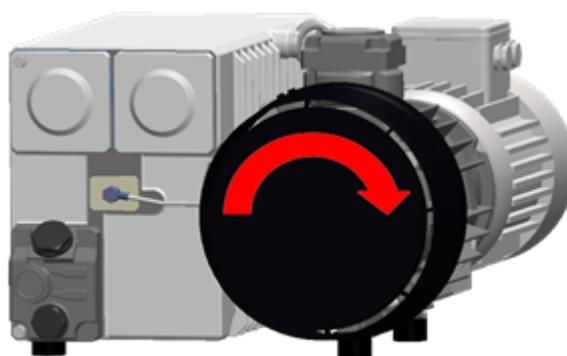

Figure 4: Direction of Rotation of the Vacuum Pump
4. Check the correct direction of rotation of the three-phase model pump. See *Figure 4: Direction of Rotation of the Vacuum Pump* on page 26.